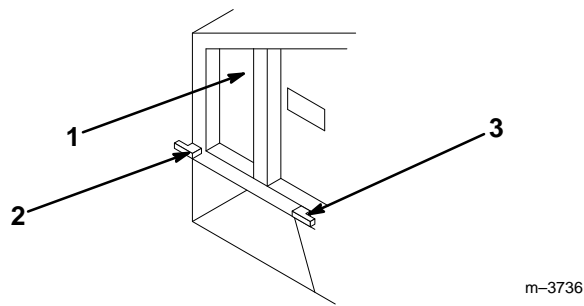

Figure 1
- A. Position the ring on the mounting bracket onto the front hook on the side of the grass basket and drop the rear hook on the grass basket into the notch in the mounting bracket (Fig. 1).